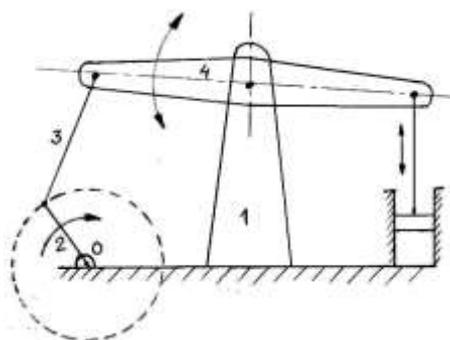

Figure:1
- (b)** Define Number of degree of freedom and determine the number of degree of freedom for the mechanisms shown in Fig.1, 2, 3 **07**